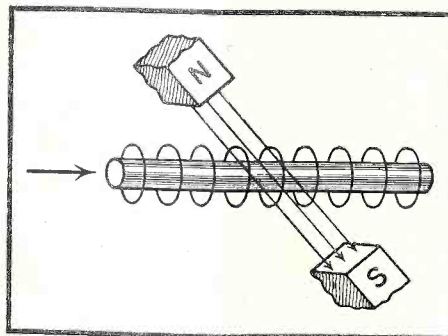

Fig. 3. Field at angle to electron stream
4. (p 13) Note Fig. 3. The horseshoe magnetic field is no longer at right angles to the electron stream. The exact angle is not given, since
except for one angle other than the right angle, the effect on the electron stream will be similar to that shown in Fig. 3. Discuss the effect of the horseshoe magnetic field upon the electron beam as shown in Fig. 3.
5. (p 13) In question 4 it was noted that except for 90° and an angular difference similar to that of Fig. 3,